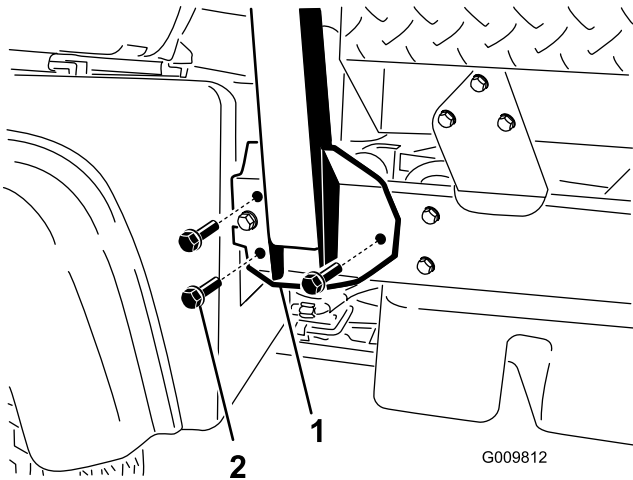

Figure 4
2. Align each side of the ROPS with the mounting holes on each side of frame of the machine as shown in Figure 4.